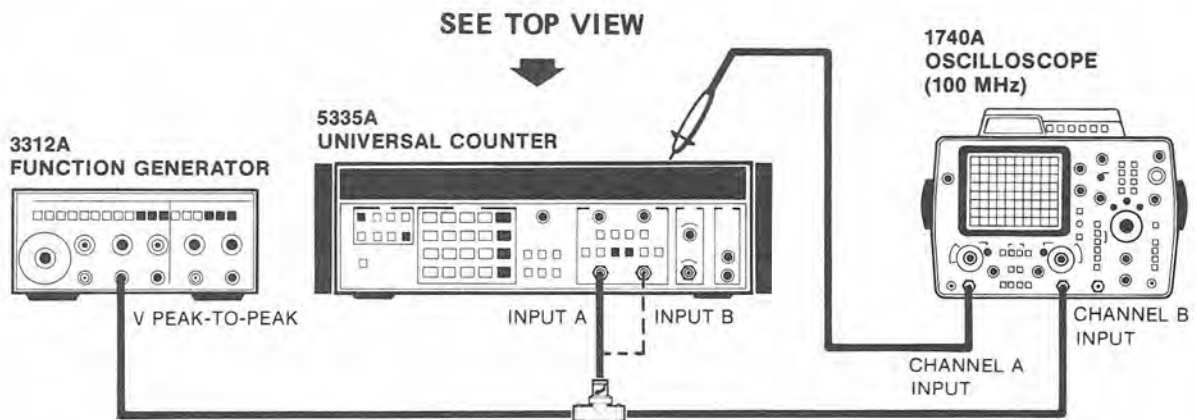

Figure 5-1. Input Amplifier Adjustment Setup.
- a. Remove the 5335A top cover, and locate variable resistors R37, R47, R88, and R96 on the A3 Input Amplifier Assembly (⁰⁵³³⁵⁻⁶⁰⁰³³~~05335-60003~~). Refer to Assembly Adjustment Locator in ~~Figure 5-1~~ ₈₋₁₀₉ and component locators in Section VIII.
*In the parenthetical notes such as (IN), the "in" refers to the position of the designated front panel switch.
- d. Connect the test equipment as shown in Figure 5-1; for the Channel A adjustment, connect the oscilloscope A channel probe to the junction of A2U11(7) and A2R39.